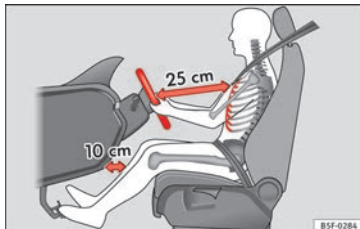

Fig. 75 The proper distance between driver and steering wheel
- Adjust the steering wheel so that there is a distance of at least 25 cm between the steering wheel and the centre of your chest » **Fig. 75.**
- Adjust the driver's seat so that there is at least 25 cm distance between the centre of the chest and the centre of the steering wheel » Fig. 75. If distance is less than 25 cm, the airbag system may not protect you properly.